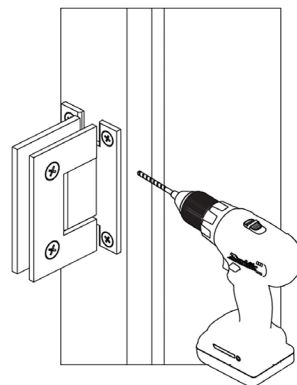

FIGURE 10
Once adjusted, and the other person is holding the door steady, take a 1/8" drill bit and place in pre drilled holes on Hinge Jamb (B). Drill three pilot holes through the Wall Jamb (A). (See Figure 10)